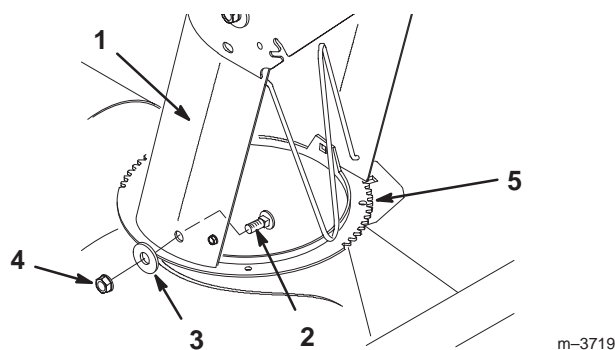

Figure 3
Install the discharge chute assembly onto the chute ring with (3) 5/16 x 3/4" (19 mm) carriage bolts (heads to the inside), (3) 5/16" (8 mm) washers and (3) 5/16" locknuts (Fig. 3).